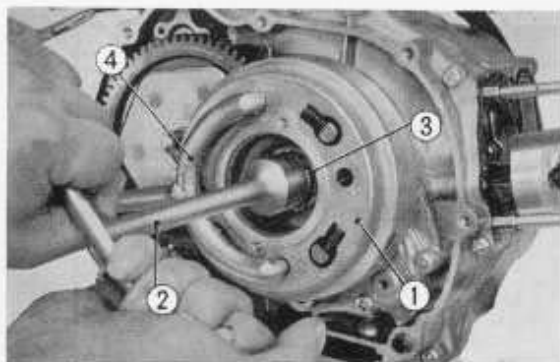

Fig. 3.66 Removing the clutch assembly
- ① Spring tester ② Spring
4. Unlock the 16 mm lock washer and unscrew the 16 mm lock nut ③, the clutch assembly ① can be removed as a unit. (Fig. 3.66)